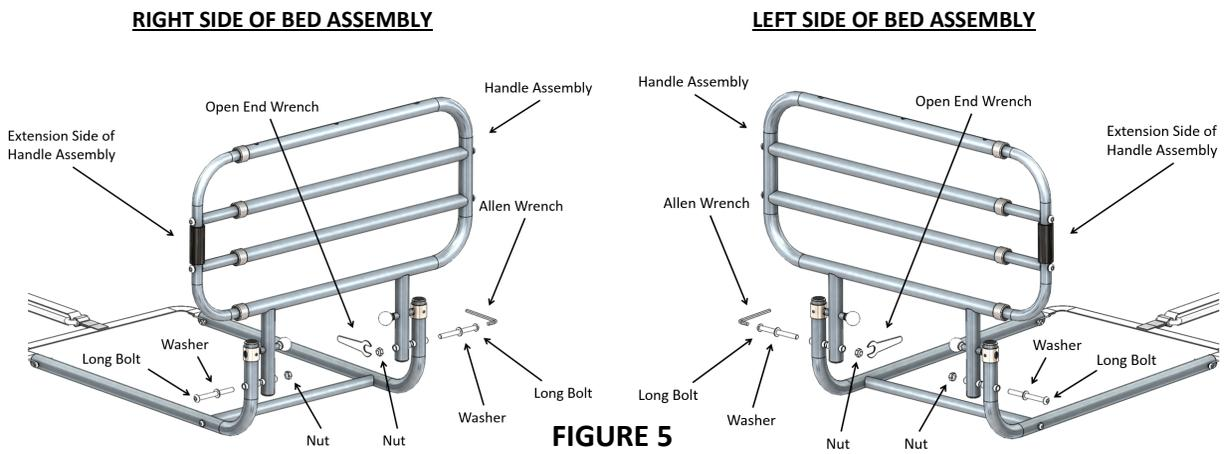

FIGURE 5
5. Secure the HANDLE ASSEMBLY to the BASE STRUCTURE with LONG BOLTS, WASHERS, and NUTS as shown in Figure 5.